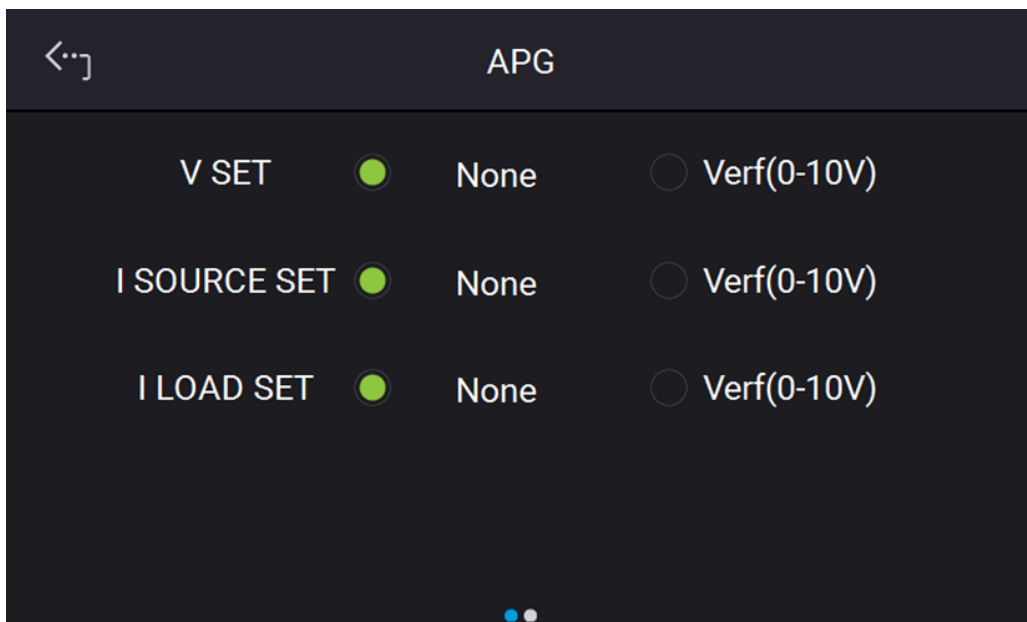

Figure 3-39
1. Tap "Interface" and select APG to appear the screen as Figure 3-39 or Figure 3-40 shows.